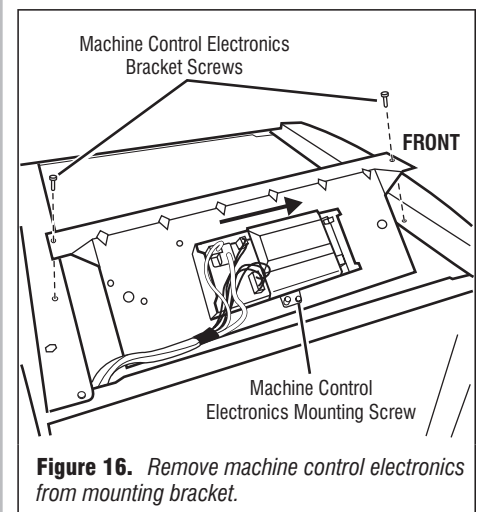
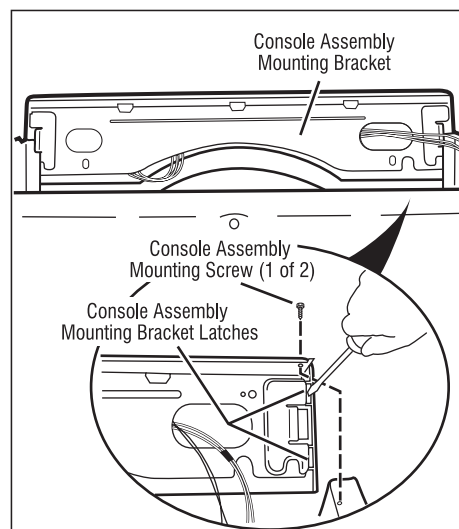

Figure 16. Remove machine control electronics from mounting bracket.
Figure 18. Remove the console panel to access the console electronics and housing assembly.
1. Perform preceding steps 1 and 2, then remove the two screws that hold the machine control electronics bracket in place. See figure 16.
2. Slide the bracket over the top of the drum to access the machine control electronics connectors and mounting screw. See figure 16.
4. Remove the screw holding the machine control electronics assembly to the mounting bracket. See figure 16.
2. Remove the screw that fastens the assembly to the machine control mounting bracket (figure 16, page 9), and the two screws that fasten the console assembly to the machine (figure 18).
4. Slide the console up and off of the machine. See figure 18.
5. The console mounting bracket is fastened to the console front panel with two latches at both sides of the console assembly. Unlatch the bracket gently with a screwdriver while pulling the mounting bracket assembly out. See figure 18.